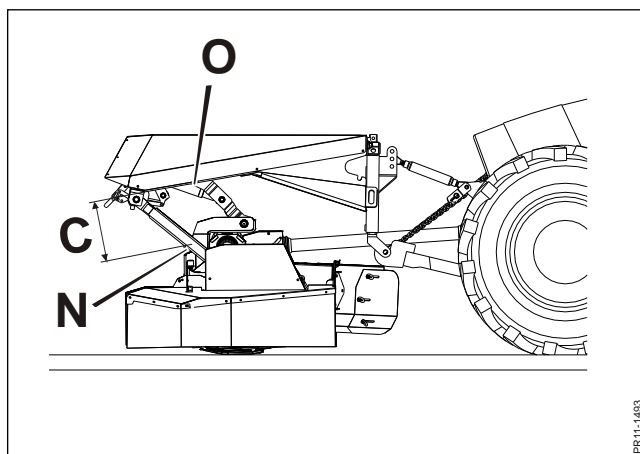

Fig. 2-8
**Fig. 2-8** Check that the clearance **C** between the stop **N** (rubber buffer) and the headstock **O** is within the area 350 to 370 mm. This clearance is recommended from the factory and is necessary for the machine to have a correct contour following during work in the field and thereby obtain a perfect result. For further adjustment of the stubble height see chapter 3 “Adjustments and driving” in the section “Cutting angle”.